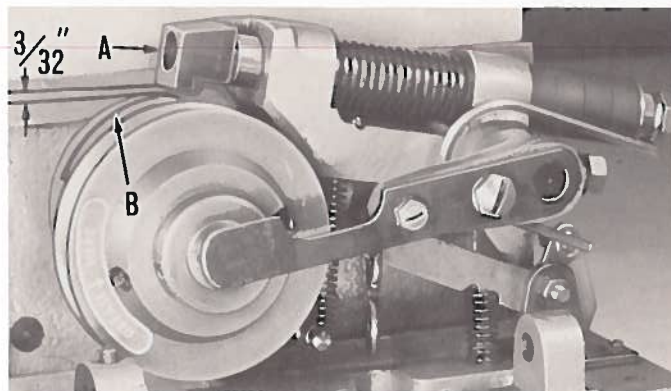

Fig. 3
Depress the treadle to take machine out of stop position, and rotate pulley two complete revolutions in operating direction. Release treadle and measure distance between plunger (A, Fig. 3) and highest point on disc (B). The distance should be $\frac{3}{32}$ inch.